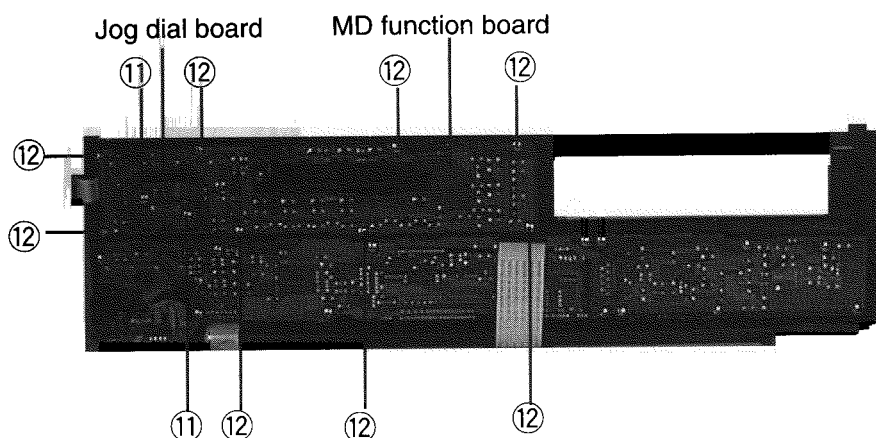

Fig.12
(See Fig. 12,13)
■ Removing the MD Function Board (See Fig. 12,13)
3. Remove the eight screws ⑫ retaining the MD function board.
■ Removing the Mic & Phones Amplifier Board (See Fig. 12,13)
2. Remove the one screw ⑬ retaining the mic. & phones amplifier board.
■ Removing the VFD Driver & Operation Switch Board (See Fig. 12,13)